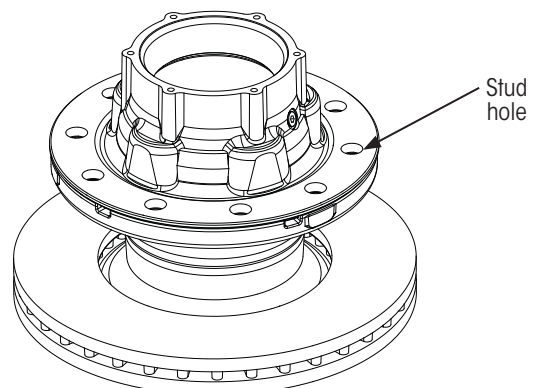

Figure 14: Aligning hub and rotor
2. Gently place the hub on the rotor mounting face and carefully align the stud holes (Figure 14).